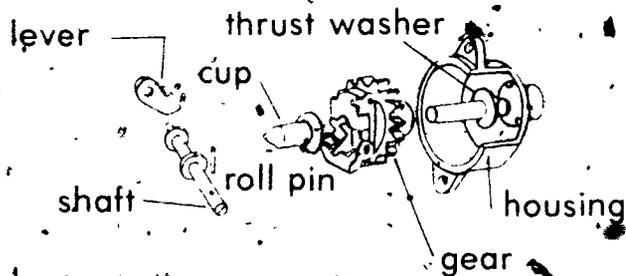

FIGURE 4
- J. Check governor unit for wear and damage (Figure 4)